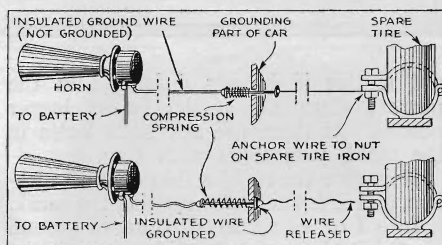

Fig. 3. This thief alarm can be adjusted to any car and will sound if spare is removed.
FIG. 3, above, shows an excellent way to protect the spare tire from theft. It operates electrically so that if anyone attempts to remove the tire the horn will start to blow and keep it up till shut off by the owner. The exact details of installations will, of course, depend on the type of car and the method of carrying the spare tire. When the string under the bolt head is released, the spring pulls the washer against the metal of the hole and completes the circuit.
**POPULAR SCIENCE MONTHLY** awards each month a prize of \$10, in addition to regular space rates, for the best idea sent in for motorists. This month's prize goes to Ralph M. Coombs, Canaseraga, N. Y. (Figure 3). Contributions are requested from all auto mechanics.